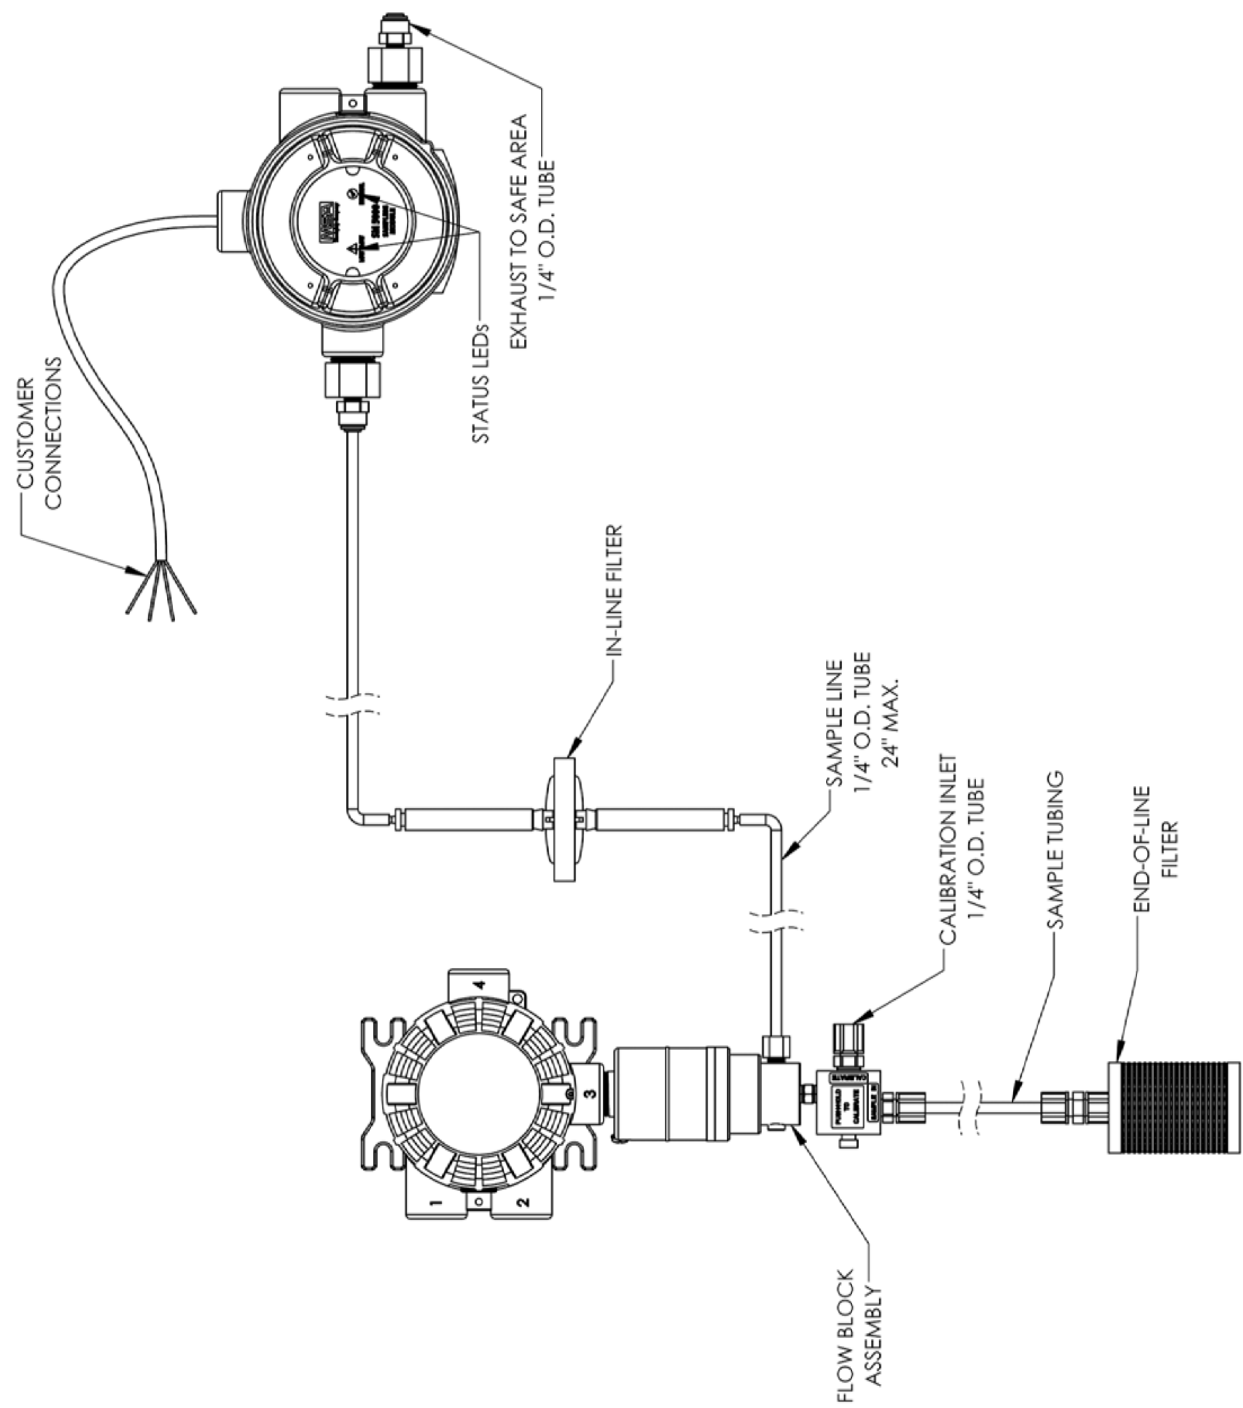
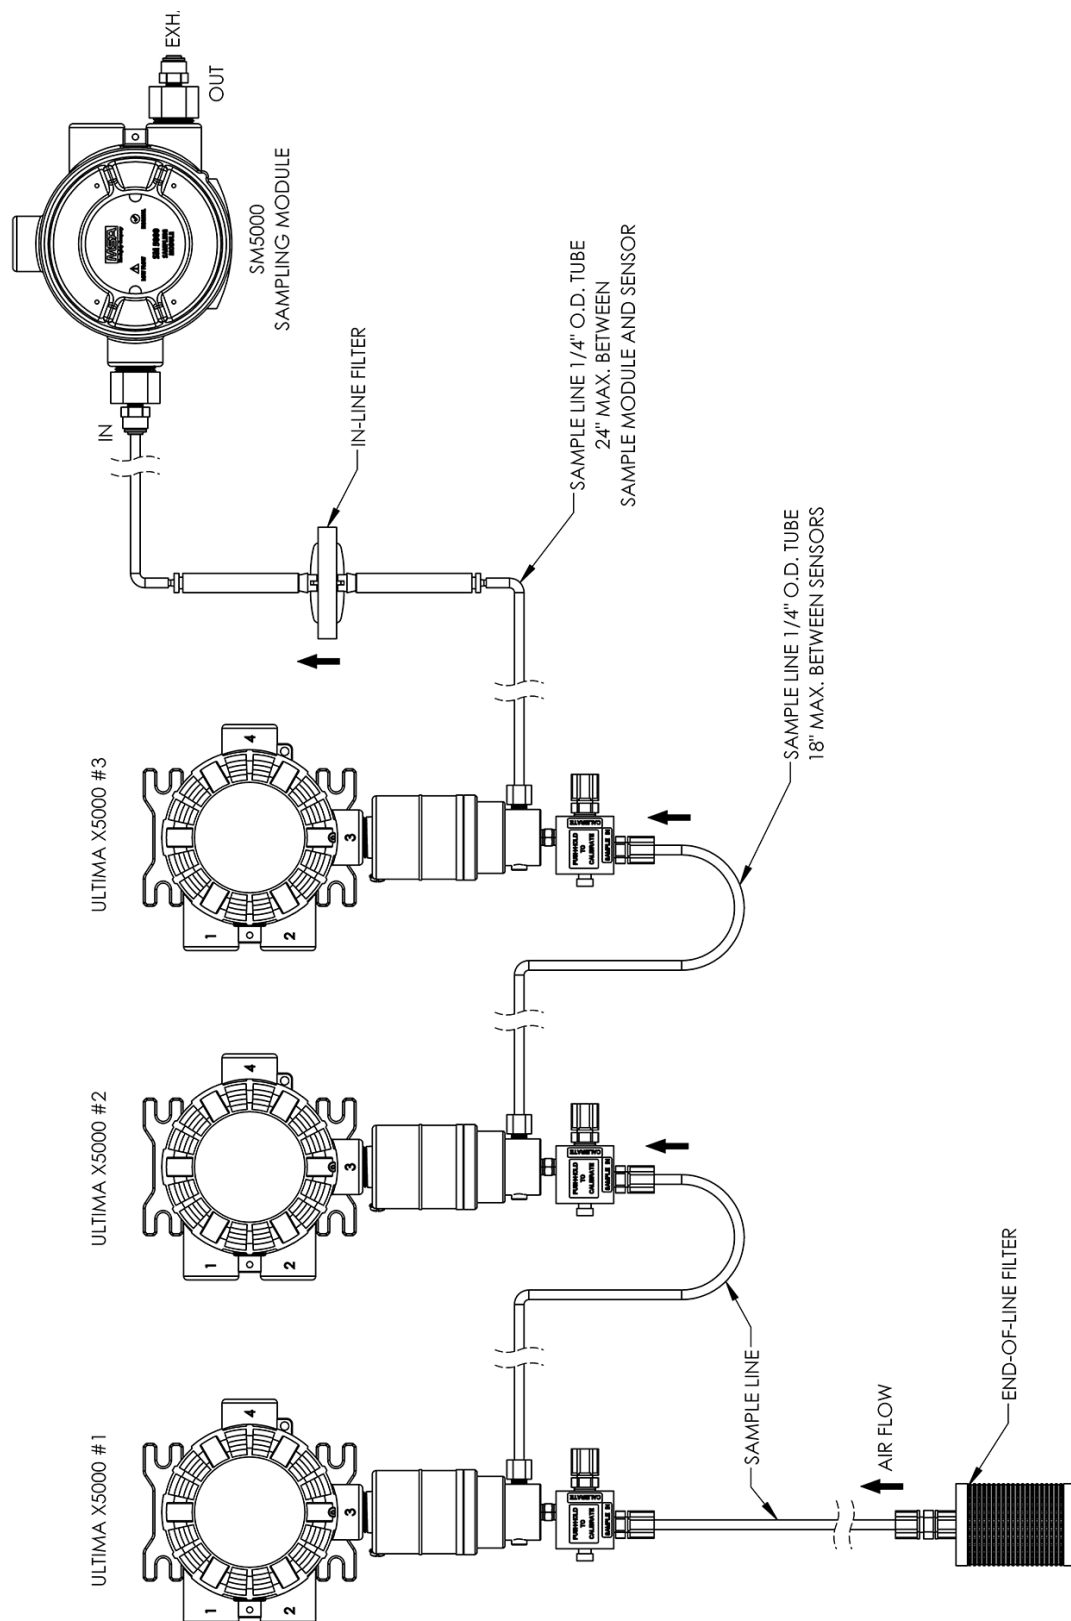

Fig. 1 Sampling module installation with Ultima X5000 oxygen, toxic, and catalytic combustible sensors
Fig. 4 Three Ultima X5000 Gas Monitors and a Sampling Module
A properly-installed unit for a single Ultima X5000 Gas Monitor is shown in Fig. 1. It is also possible for one Pump Sampling Module to supply sample gas for up to three Ultima X, Ultima X5000, or S5000 Gas Monitors. This procedure:
- (3) Mount gas monitor such that the digital sensor inlet is facing downward. If installing with an Ultima XIR or XIR PLUS, mount such that the sensor inlet is horizontal.
- (4) Mount Pump Sampling Module exhaust tubing so that the end of the tubing is facing downward and is the lowest point of the tubing (see Fig. 1).
- (3) Install the flow block(s) on the gas monitor(s) where the red or black sensor guard was removed in the previous step (see Fig. 1 and Fig. 4).
- (4) Attach the supplied tubing to the Pump Sampling Module port labeled "TO ULTIMA".
- (5) Attach the other end of the supplied tubing to the side of the flow block (see Fig. 1).
The in-line filter must be used before the Pump Sampling Module to prevent water entry from damaging unit. If installing additional gas monitors, install tubing between units as shown in Fig. 4. Use tubing compatible with the gas being sampled.
- f) Connect the conductors to the wiring terminal strip noting the identity of the wires (see Fig. 4 and Tab. 4).